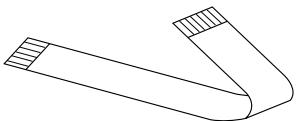
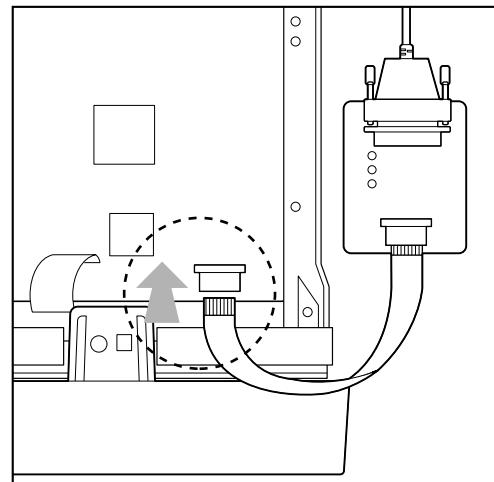

Fig.2. FFC Cable (15 pin)
Fig.8. FFC Cable Connecting
3. Connect FFC Cable(Fig.2) to the Connector on DVD Set(Fig.8)